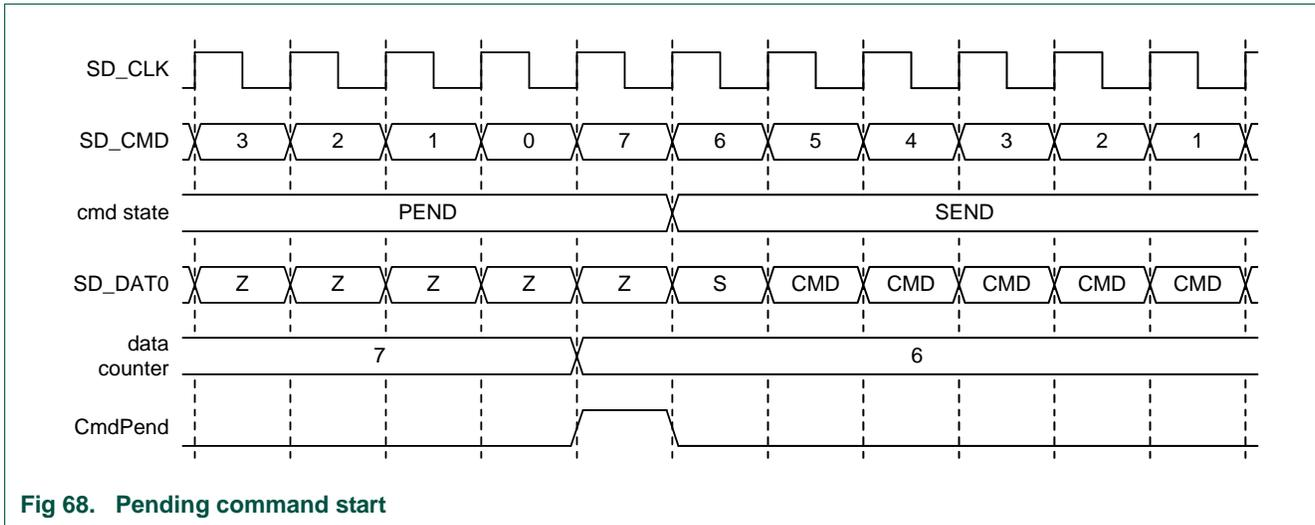

Fig 68. Pending command start
- To start transferring a pending command (see Figure 68). This is used to send the stop command for a stream data transfer.